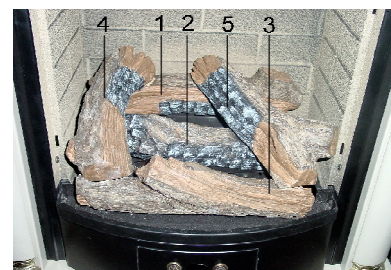

Figure 6
- Insert the pinhole on the upper side of log 5 into the pin on the right side of log 1. Place the lower part or the flat roof at the right side of log 3 (Figure 6).